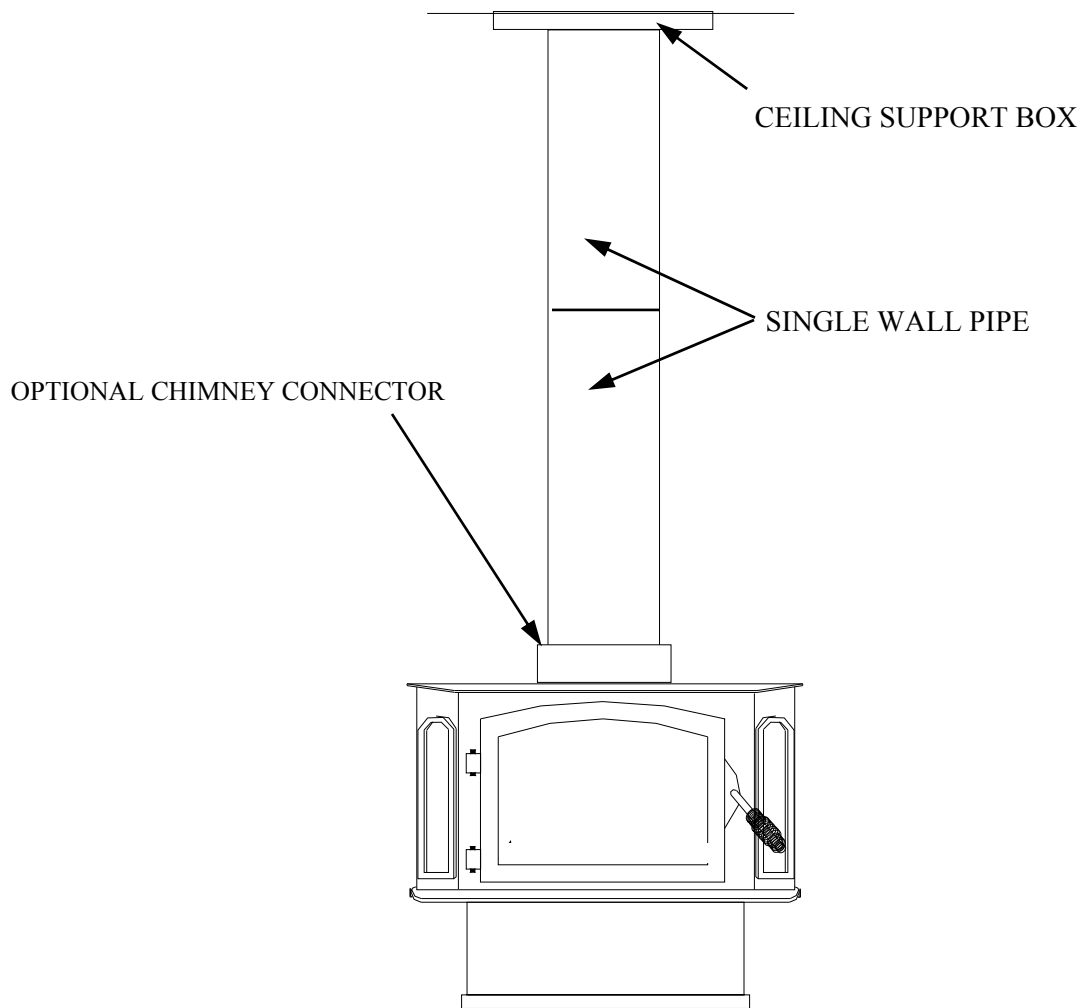

Figure 9
- (c) Secure each section to each other using at least three (3) sheet metal screws or rivets.
- (d) Use three (3) sheet metal screws to fasten pipe to connector collar on heater.
3. Next, install an optional New Buck Corporation chimney connector to flue exit of heater or you may use "Ell" brackets to fasten pipe to stove. See (Page 23, Figure 9).